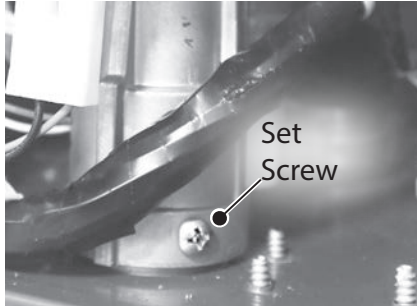

Figure 91 - Gas valve set screw
- 19** Locate the set screw on the bottom flange of the gas valve. Remove set screw and place aside in a safe place for reinstallation. See Figure 91.